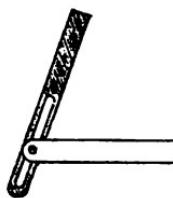

FIG. 9.
**Bevel.**—In this, the blade instead of being fixed as in the square, is movable round a centre, so as to form angles of any number of degrees with the stock (Fig. 9). The bevel enables us to draw lines forming any required angles with a straight edge. *Price:* medium size, 2s. 6d.